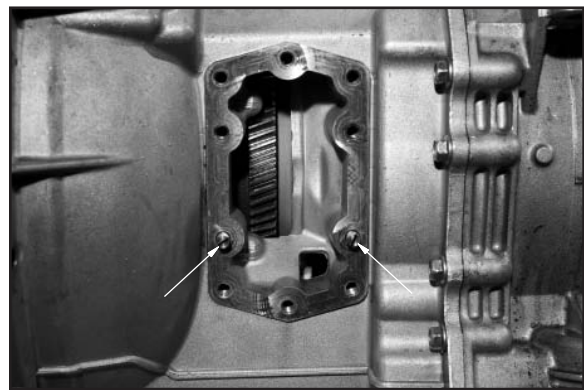

Fig. 8
8. Using a screwdriver, install the dowel pins until they bottom out (**Fig. 8**) (Refer to page 13 for correct location and use).